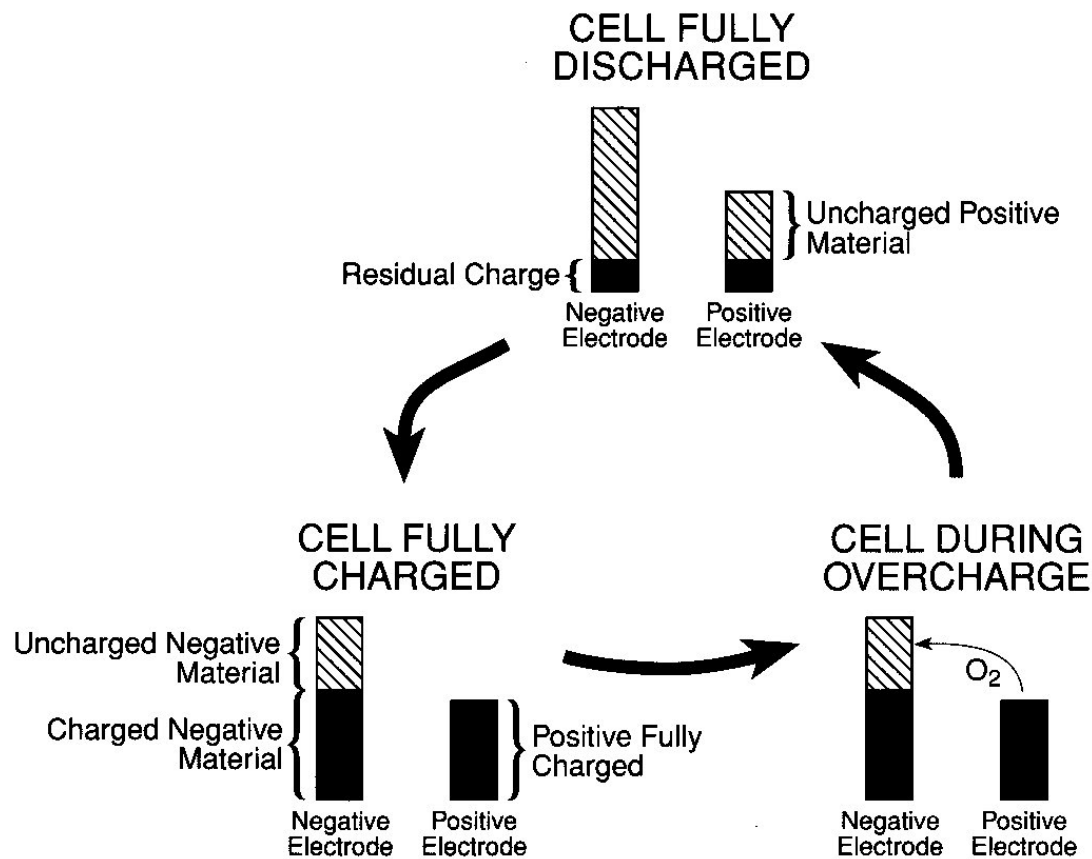

Figure 2.
- The balance between the positive and negative electrodes is adjusted so that the cell is always positive limited as illustrated in figure 2. This means that the negative electrode possesses a greater capacity than the positive. The positive will reach full capacity first as the cell is charged. It will then generate oxygen gas that diffuses to the negative electrode where it is recombined. This oxygen cycle is a highly efficient way of handling moderate overcharge currents.